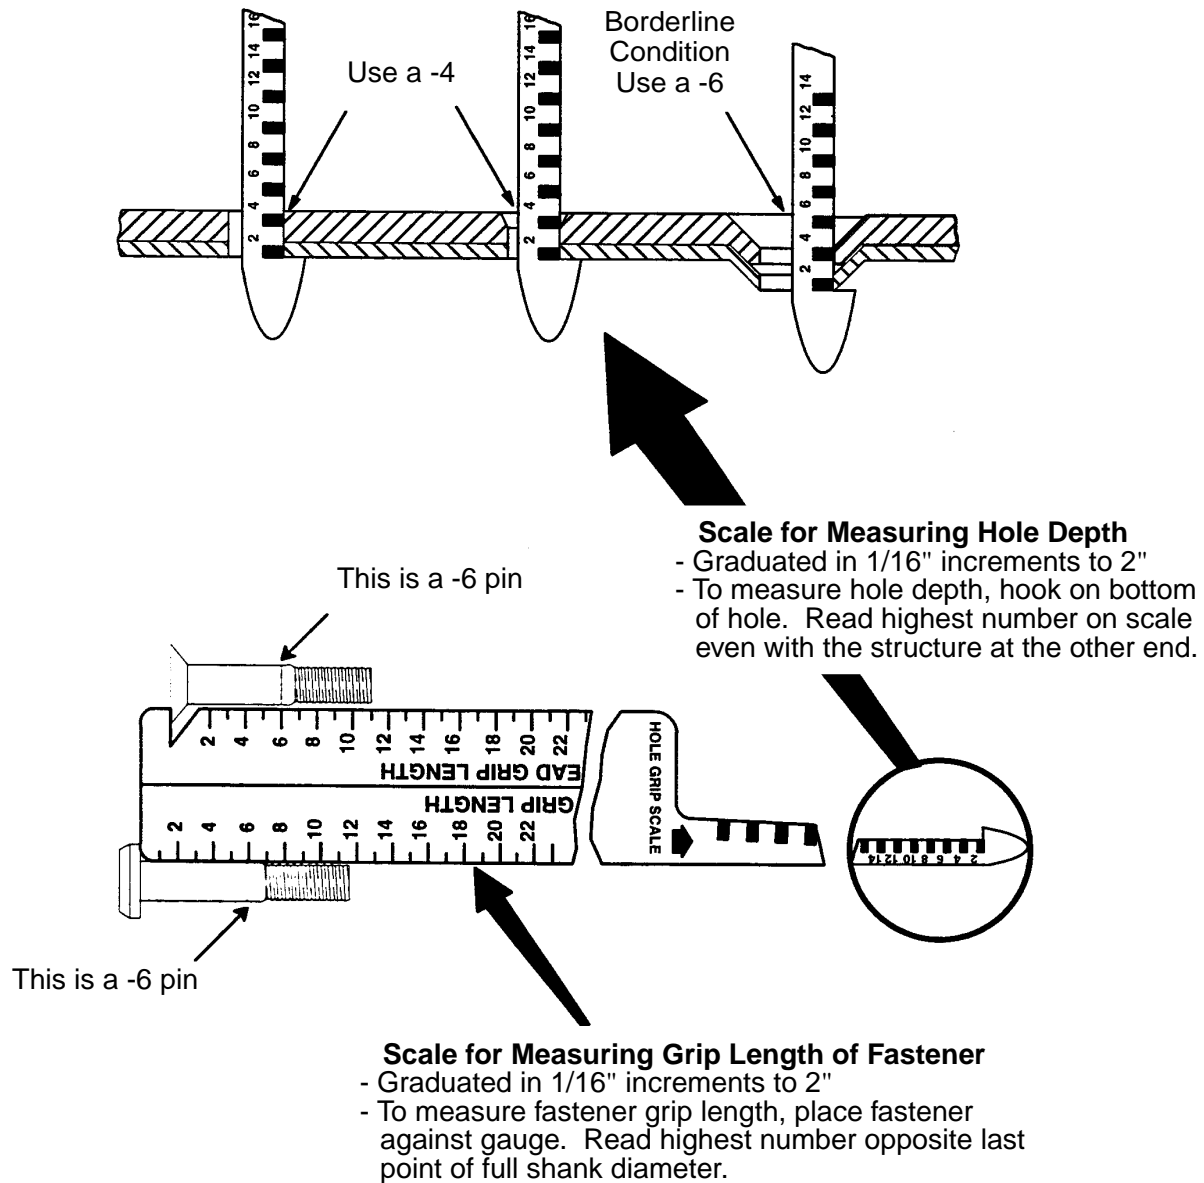

Figure 9 - Grip Scale (Hi-Shear #2-612)
- 5.4.2 The hole depth number shown on the grip scale corresponds to the Hi-Lite pin grip length dash number. Always read to the next higher number as shown in Figure 9 (i.e., if the reading is past the **end** of the -3 marking then use a -4 fastener). If a tapered sheet condition exists, use the grip length indicated for the thickest section.
- 5.4.3 If the head markings of pins do not show the grip dash number, check the grip length of Hi-Lite pins using the grip scale as shown in Figure 9. Refer to Figure 3 for a listing of the grip length ranges for each grip dash number.